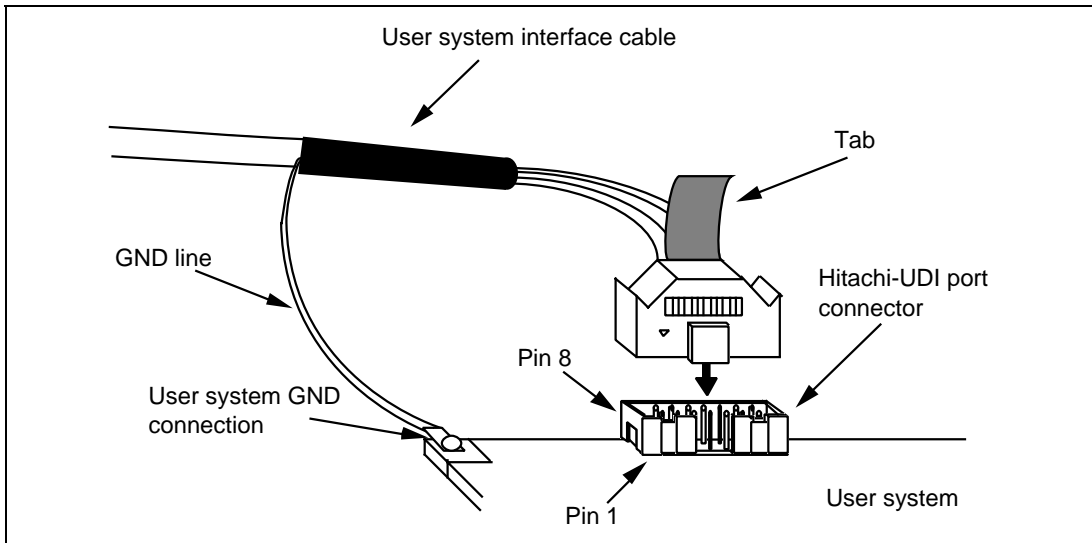

Figure 2.4 Connecting the User System Interface Cable to the User System when the 14-pin Straight Type Connector is Used
- (2) Note that the TDO signal of the user system interface cable connector must be connected to the TDI pin of the Hitachi-UDI port connector and the TDI signal of the user system interface cable connector must be connected to the TDO pin of the Hitachi-UDI port connector. Section 6.2 shows the pin arrangement of the Hitachi-UDI port connector.
- (3) Figure 2.4 shows how to connect the user system interface cable to the user system when the 14-pin straight type connector is used. Connect the ground line of the cable to the user system ground. The end of the ground line has a hole having a diameter of 3 mm, and therefore, when the ground line is screwed to the user system, the screw diameter must be 3 mm.